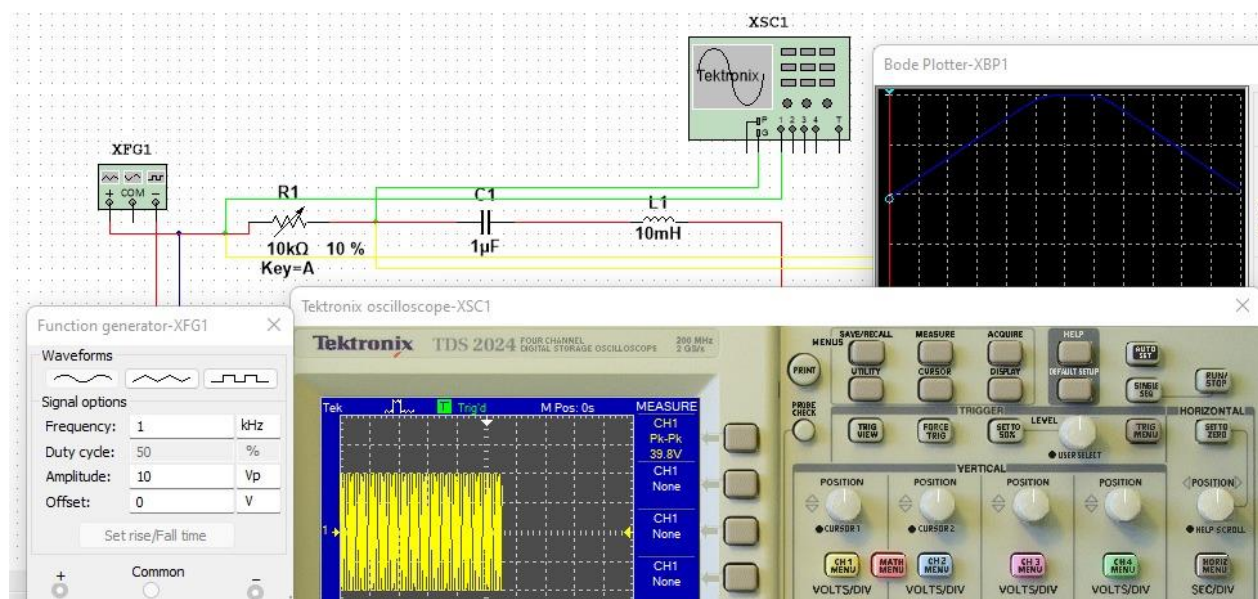

Figure 4: The Output and The Bode Plot at $1k\Omega$
- In the first part, in the same circuit, we used $1k\Omega$ for the potentiometer, and we got the output and the bode plot as shown in **Figure 4**.